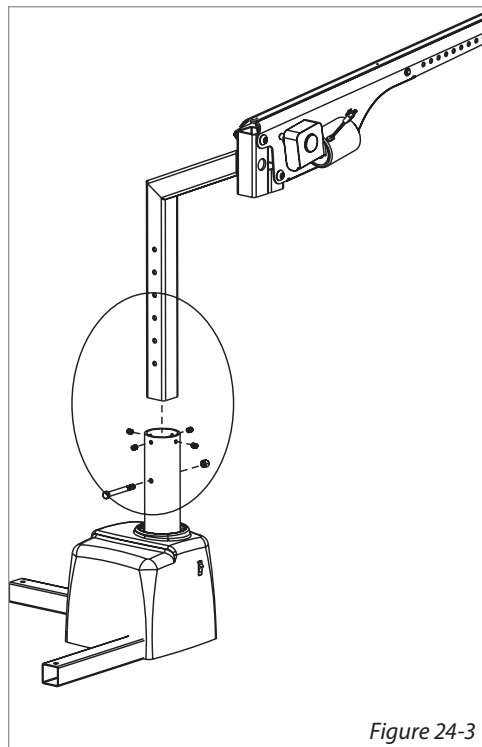

Figure 24-3
- Loosen set screws (x4) [Figure 24-3]